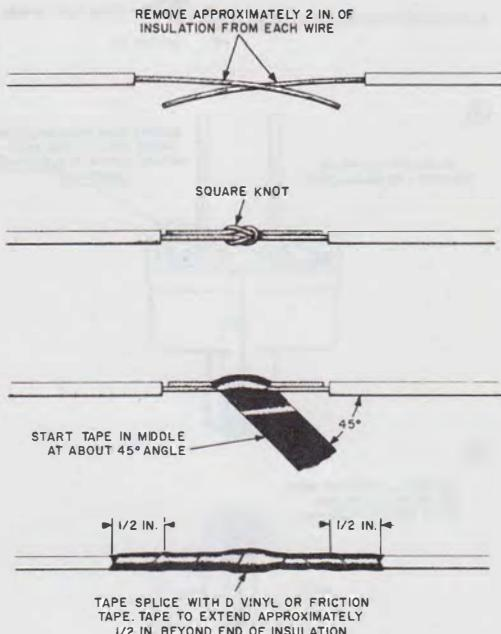

Fig. 5—Repairing Broken Cord
(1) A maximum of three splices permitted.
(2) No splice permitted if the open is within four inches of the indicator assembly.
(3) The overall length of the cord between the ground clip and indicator assembly shall not be less than 7 feet, 6 inches.
4.03 Open cords are spliced as follows (Fig. 5):